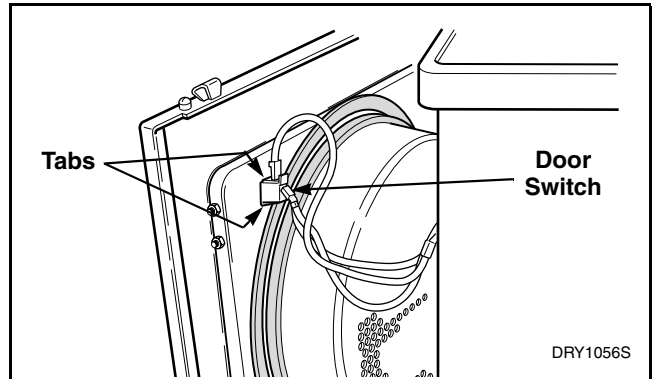

Figure 13
- b. Depress tabs on top and bottom of switch and push out of front panel. Refer to *Figure 13*.